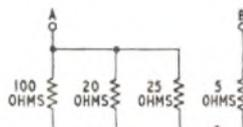

Fig. 1
Q. 1. In the circuit shown in Fig. 1, when the switch S is closed, a battery of internal resistance 2 ohms maintains 12V between the terminals AB. Calculate: